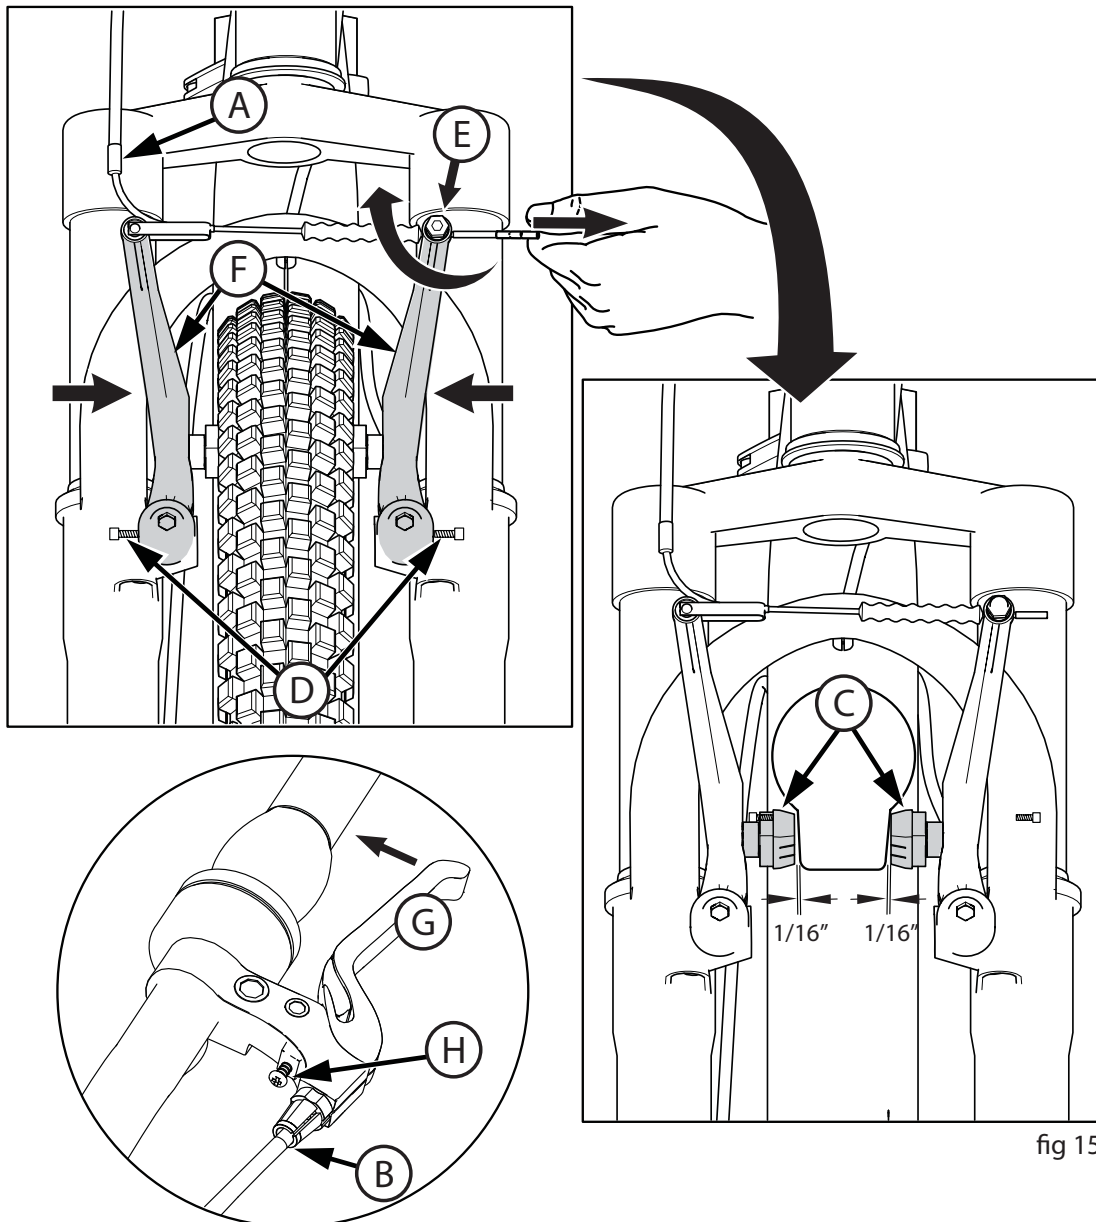

fig 15
8. Repeat these steps until the brake shoes are 1/16 inch from the rim and the Brake Lever (G) does not go all the way to the grip when squeezed (**fig 15**).
Test the tightness of the cable clamp (**fig 15**):